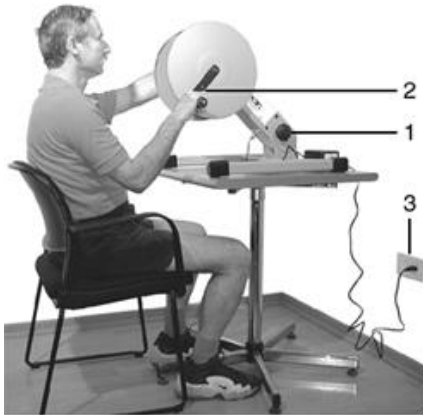

Figure 5
Step 1: Position the **APT-1** on a level table top close to an electrical socket outlet (Figure 5).